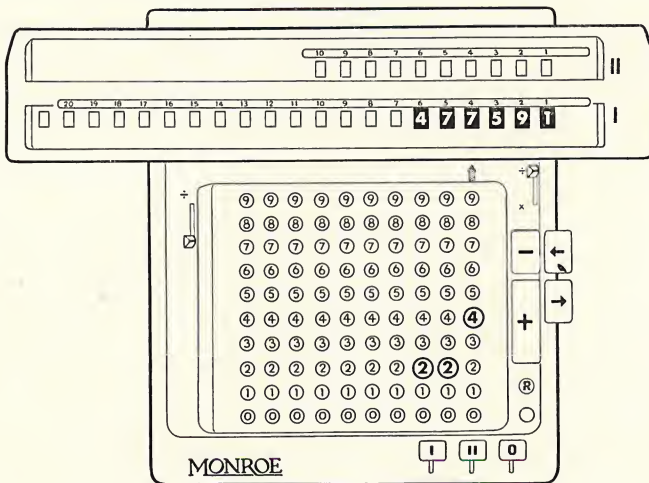

Figure 7
Step 2—Set the divisor, 224, on the right of the keyboard and move the carriage three places to the right with carriage shift bar so that the divisor, 224, is in direct alignment with the 477, the first three figures of the dividend. The machine at this point appears as in Figure 7.